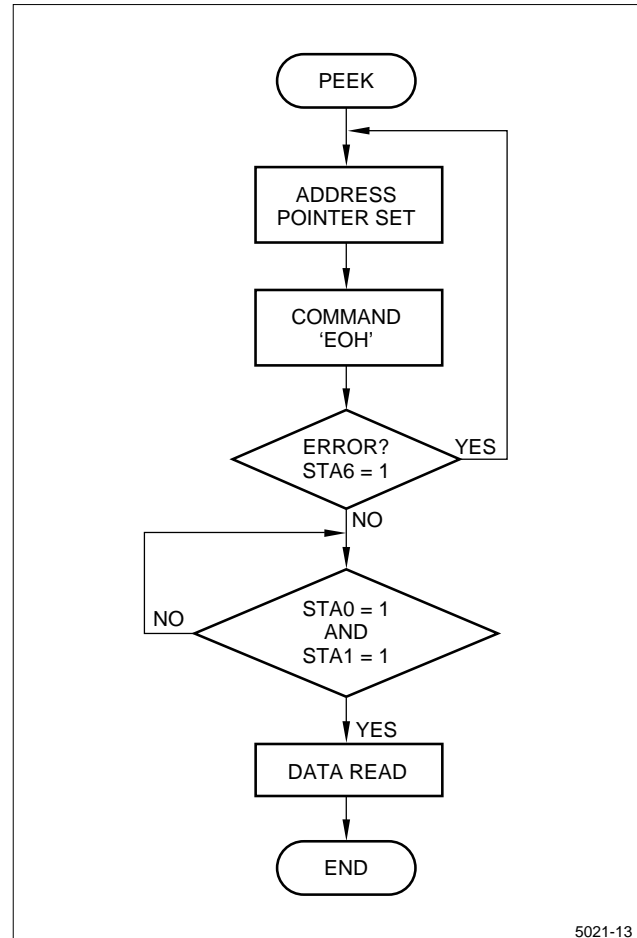

Figure 14. Screen Peeking Flow Chart
3. If the address was set out of Graphic RAM area, this flag is set. After writing next command, this flag is reset. (See Figures 14 and 15.)